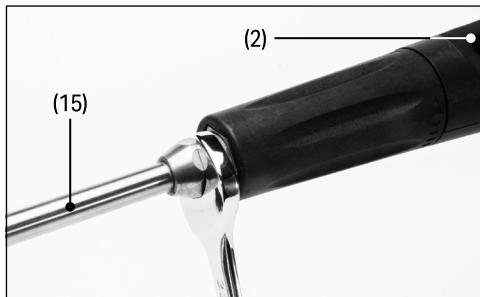
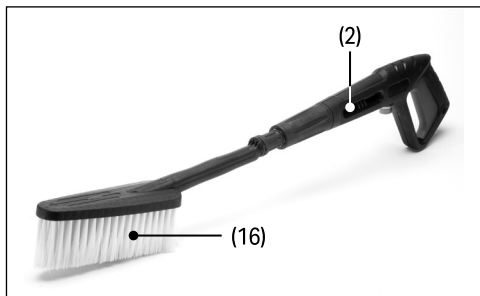

Fig. 18
Fig. 19
7.5 Fixed Brush (Fig. 18 – Fig.19)
- The fixed brush (16) has soft bristles and can be used in conjunction with the detergent dispenser to apply detergent to the surface you are cleaning. Ideal for cleaning car bodywork, windows etc.